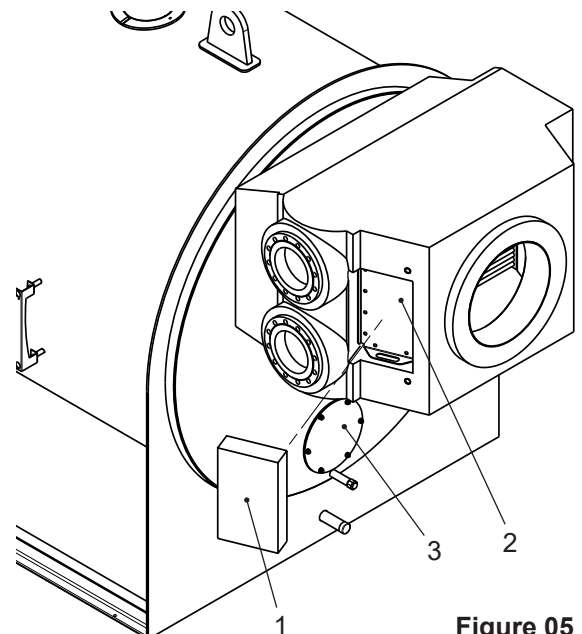

Figure 05
- Remove the insulation cover (1, Figure 05) on the side opening of the heat exchanger and open the cover (2, Figure 05).
- Remove the contact protection cover (3, Figure 05) on the rear cleaning cover of the boiler exhaust manifold and open the cover below.